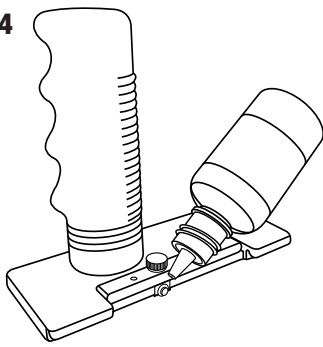

Fig. 45
6. Hook glass cutter onto guide rail past end of glass. Pull cutter until wheel hits glass (**Fig. 45**).